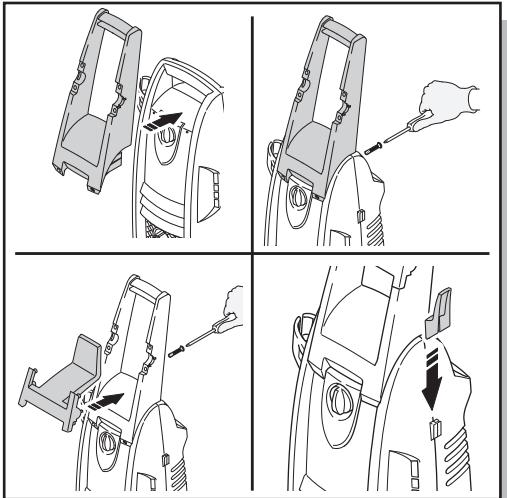

Fig. 1
- Install the handle on the front of your **BLUE CLEAN POWER WASHER** (Fig. 1). You will notice where the handle slides onto the top of the machine. With the screws provided, place the screws in the holes on the back side of the handle, and screw them in. Do not over tighten. After the handle is secure, slide the high pressure hose holder onto the handle as shown. Use the screws to fasten the holder to the handle.
- Install the power cord holder by sliding the clip onto the groove onto the side of the power washer (Fig. 1).